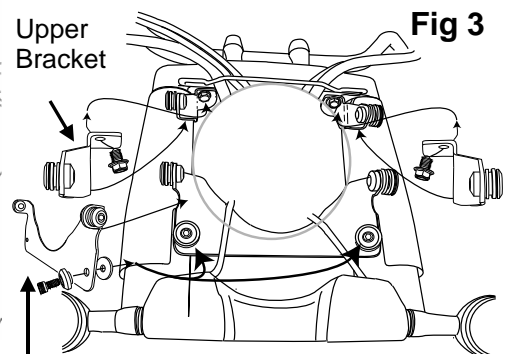

Fig 3
6. Locate the two threaded holes in the underside of the upper triple tree (one on each side) and **loosely** install the left and then the right bracket assembly using (shorter) 8mm X 12mm SS Hex head bolts and 8mm SS flat washers. (see Fig. 3). The bolts will be tightened later, after the fairing is installed. It is easier to start and tighten these bolts from the backside of the fork. Turn the handlebars full left to access the right side and full right to access the left side.
7. Install the lower anchor bracket on the front of the lower triple tree. Use the 8mm socket head cap screws. On each put a 7/8" Beveled socket washer in front, and a 1 1/8" Spacer washer behind the bracket. (Fig 3 and 5)